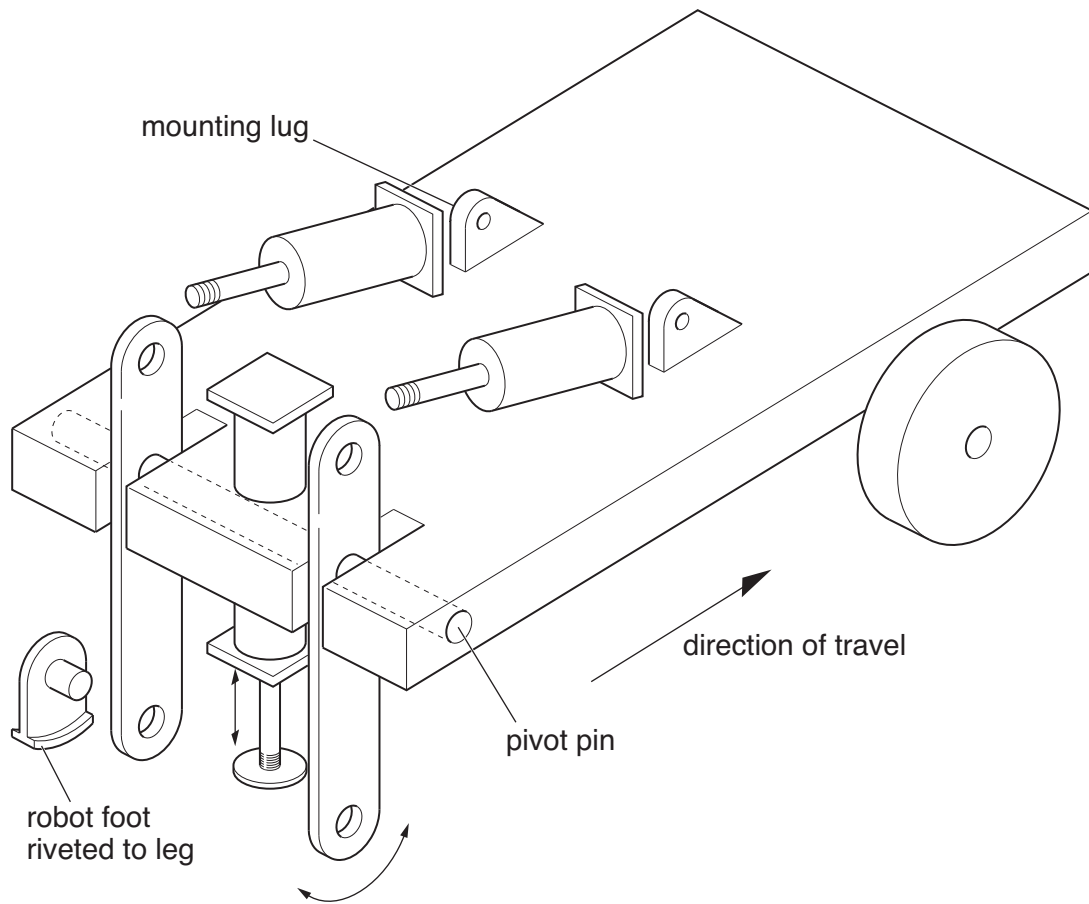
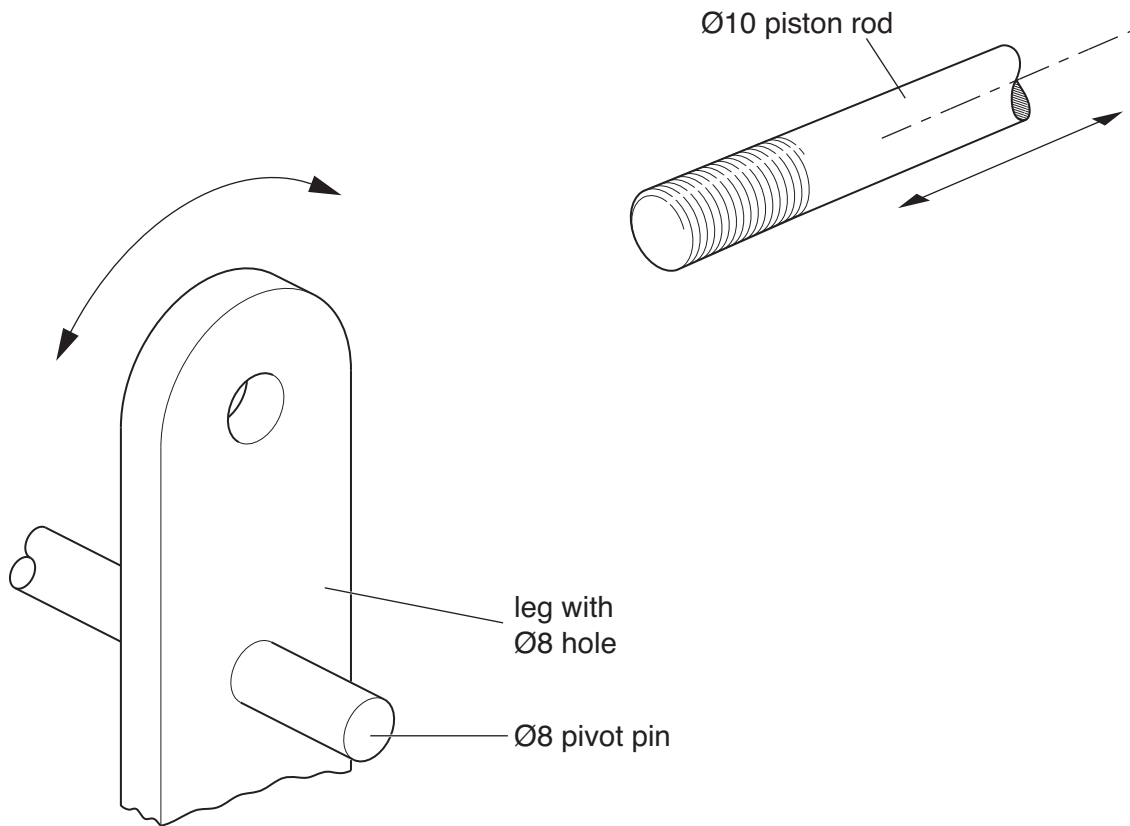

Fig. 1
Fig. 5
Fig. 1 shows a pneumatically walking robot.
- 5 Fig. 5 shows the top of one leg and the piston rod of an operating cylinder of the walking robot shown in Fig. 1.
- (a) Using notes and sketches, complete Fig. 5 to show a component that will fit on the threaded end of the piston rod and attach to the end of the leg allowing the two parts to move as required. [5]